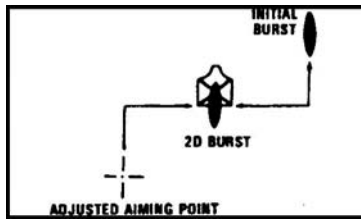

Figure 3. Adjusting the aiming point.
4. Adjust fire using the adjusted aiming point method (Figure 3).